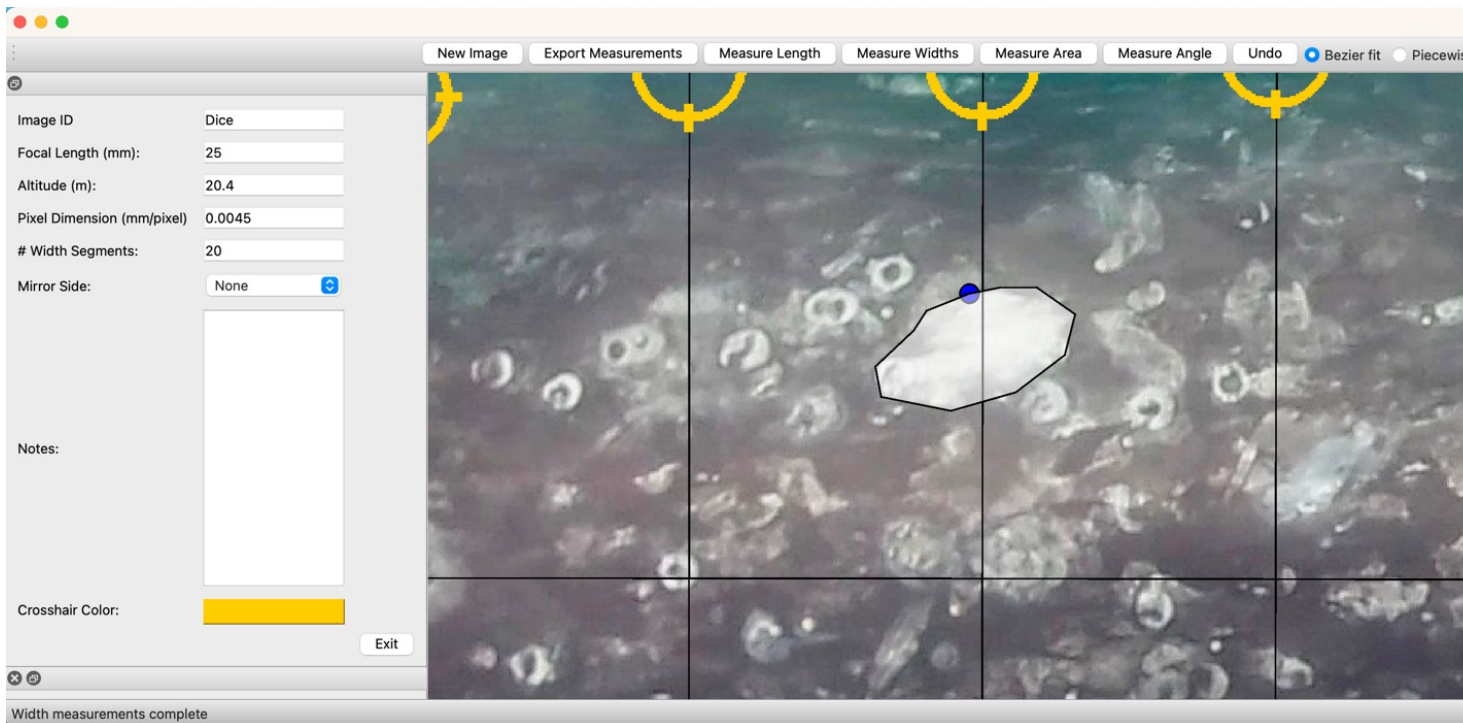

Figure 13. Completed area measurement of a white patch on skin.
- A blue dot will denote the final connecting point of the polygon and the area measured will be shaded (Figure 13).